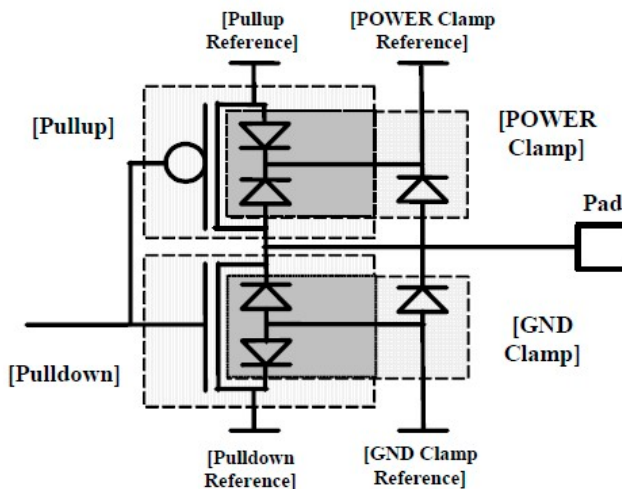

Figure 3-1. Model IV Keywords' Structure
- IV keywords (see Figure 3-1)